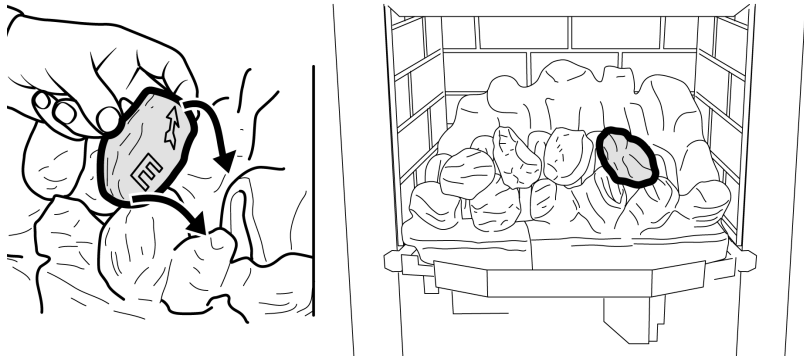

Figure 37. Second row "Coal E"
12. Hold coal 'E' upright with the arrow pointing to the top. Locate coal 'E' as shown in figure 37.